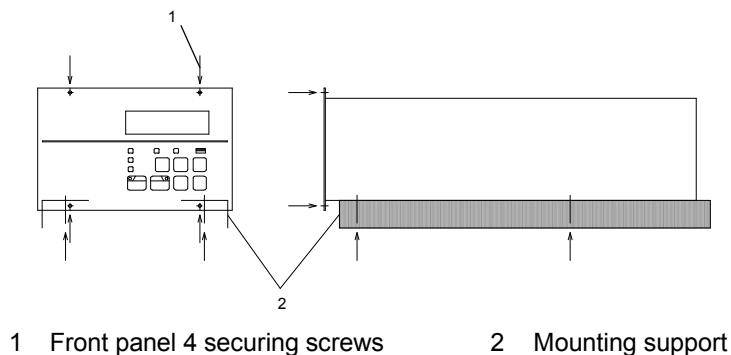

Figure 13 - Example of securing the SCU-800
*Note: For the dimensions of the front panel and positions of the screw holes for the rubber feet, refer to Figure 10 and Figure 13.*
- Attach the front panel to the rack using the 4 screws Figure 13 (1).
- Support the SCU-800 from the bottom using a support angle Figure 13 (2) or a similar tool.